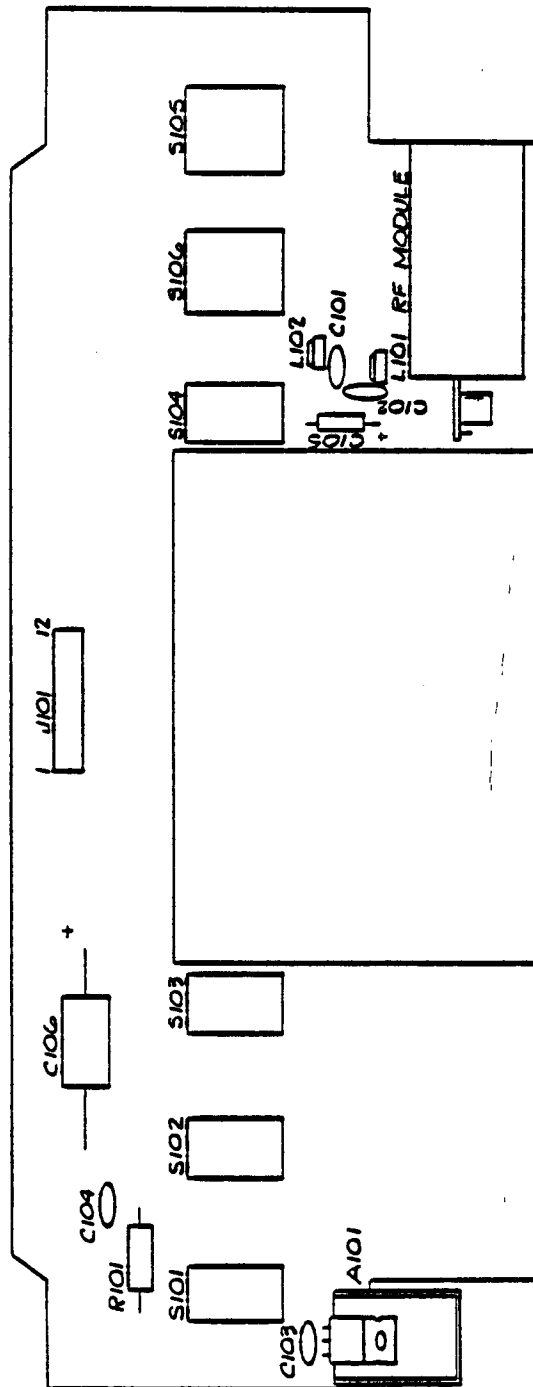

Figure 2-3. 2600 Channel 3 Switchboard Silkscreen
- C103 and/or C104 may be ceramic .01uf (See Figures 2-3 and 2-4).